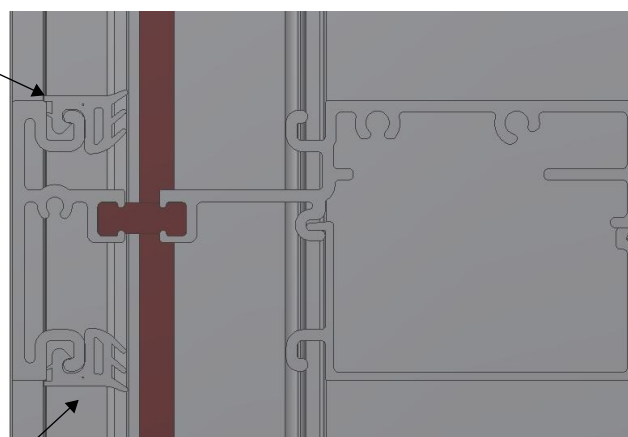

Figure 10: Install the exterior horizontal gaskets.
- Install the exterior horizontal gaskets at each end and work toward the center, firmly pushing the gasket in place as shown in Figure 10.